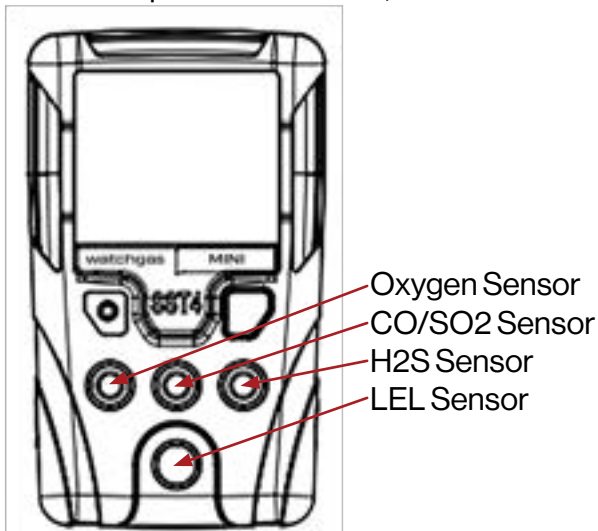

Figure 12. Replacing the H2S, CO, Oxygen, and LEL sensor
4. Insert the new sensor(s). For sensor positioning, refer to **Figure 12**.